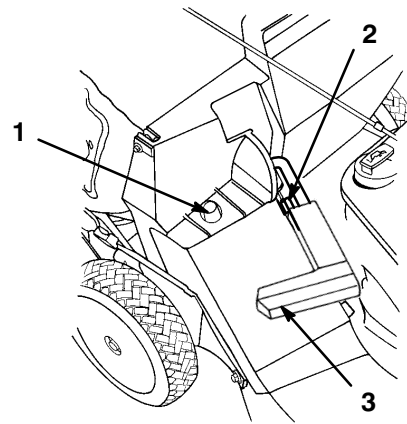

Figure 17
2. Make sure that the discharge door handle is fully forward and the pin is contacting the catch (Fig. 17).
3. Slide the hole in the bag frame onto the retaining post on the housing (Fig. 17).
2. Raise the discharge door handle and move it forward until the locking pin contacts the catch (Fig. 17).